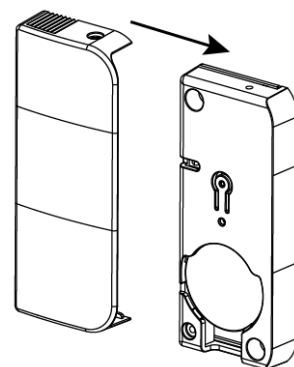

FIG. 4
Step 5. Re-place the cover back by sliding it rightward (**FIG. 4**).